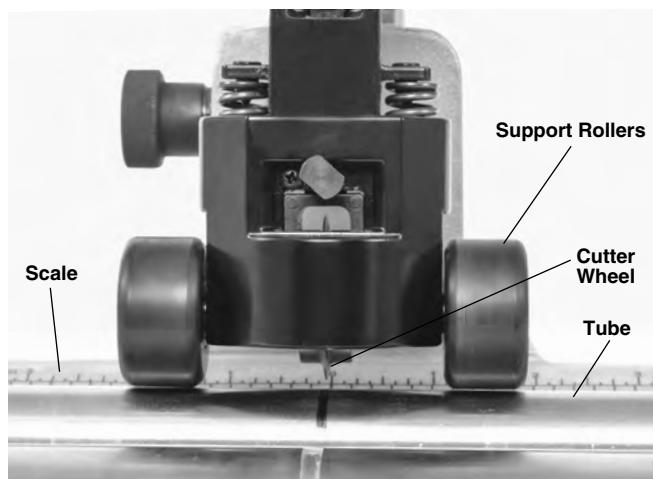

Figure 9 – Support Rollers Contacting Tubing
5. Advance the quick feed system until the support rollers contact the tube (*Figure 9*). Align the cutter wheel with the mark on the tubing. Tighten the feedscrew to bring the cutter wheel in contact with the tube. After cutter wheel contacts tube, advance the feedscrew an additional 1 to 1½ turns to grip the tube. Do not over advance the feedscrew, this can oval the pipe and increase burr formation.